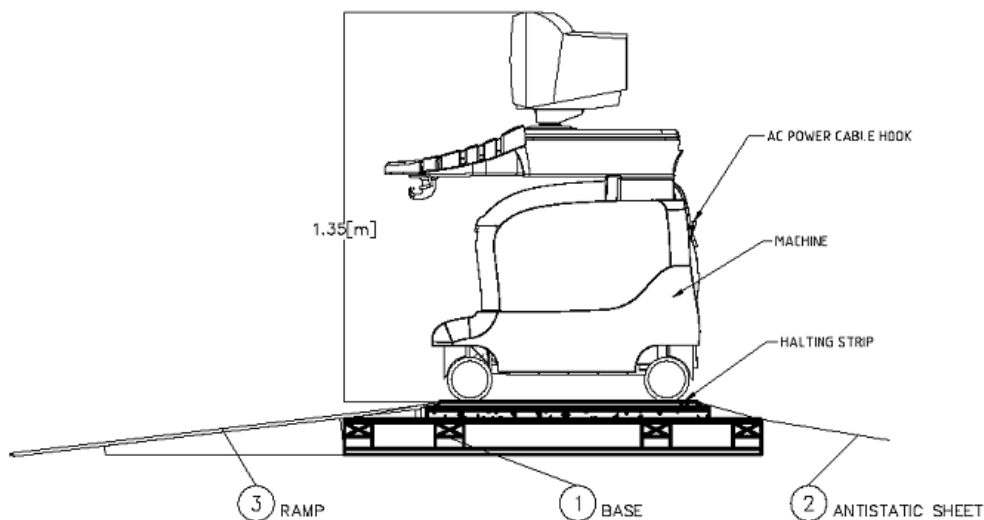

Figure 3-5 Removing the Unit from the Wooden Crate
- 16) Lay the top cover (removed from the crate in step 8 on page 3-6) on the floor and push it over the narrow side of the base, in front of the unit, to act as a ramp (item 3 in Figure 3-5 below).